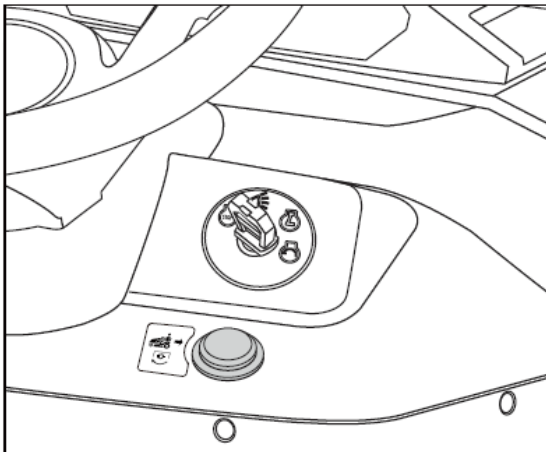

Fig.21
2. Press and hold M-I-R button.(Fig.21)